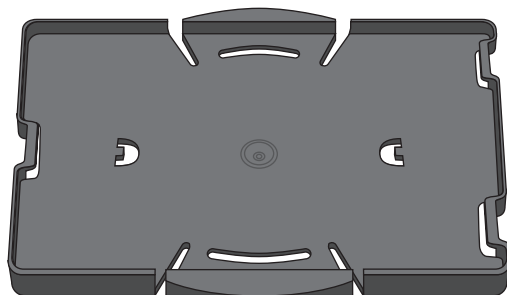

Figure 4 IKA MS3 Microtiter Attachment
- The IKA Microtiter Attachment (PN MS 3.4) is supplied with the IKA MS 3 vortexer and is required for 96- or 384-well plates (see Figure 4).